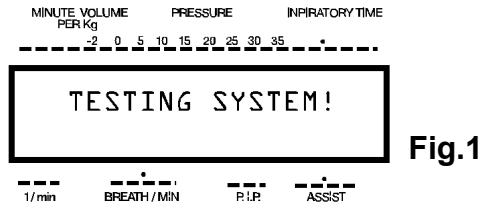

Fig.1
4. While still holding your thumb over the sampling elbow, place the **Power** switch to "I" or "On". The ADS 2000 will now perform a self-test. This will be indicated by the LCD display as shown in Figure 1. Continue to hold your thumb over the end of the sampling elbow until this test is complete.